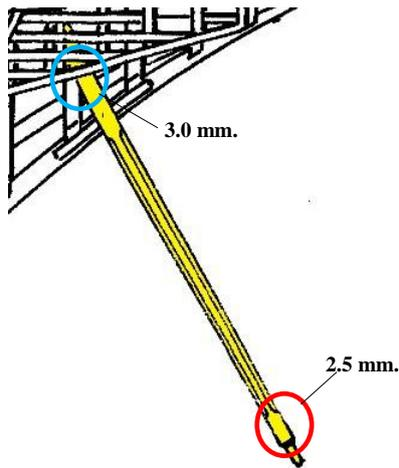

Figure 38: Boomkin Dimensions (Plan Sheet 2)
**Notch** formed, **3.5 mm** from outboard end (refer back to Fig. 38)